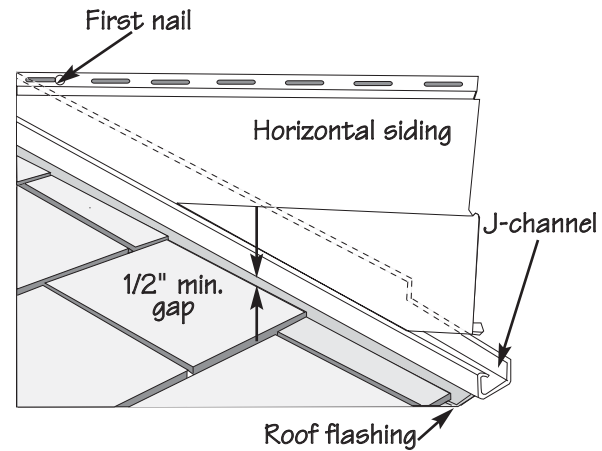

Figure 34.
- Fasten the nail, screw, or staple that is closest to the roof line at the far end of the nail hem slot, to ensure that siding will expand away from the J-channel (Fig. 34).